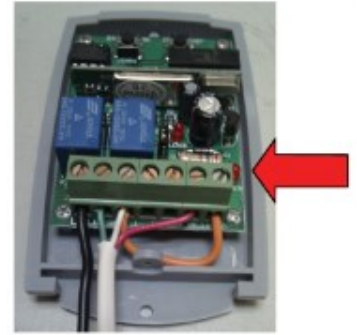

Fig 2
6. The red power light should come on the receiver. (Fig 2)